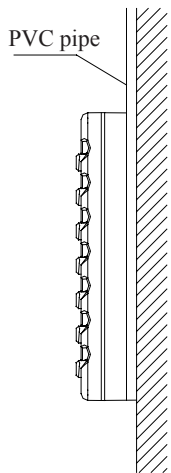
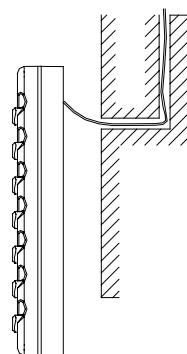

Fig. 22 Cable of direct installation
Fig.23 Cable of concealed installation
- ◆ The connection wire between indoor unit and controller can be laid in the pit with 1# PVC pipe for direct installation (Figure 22). For concealed installation, 1# PVC can also be utilized (Figure 23).